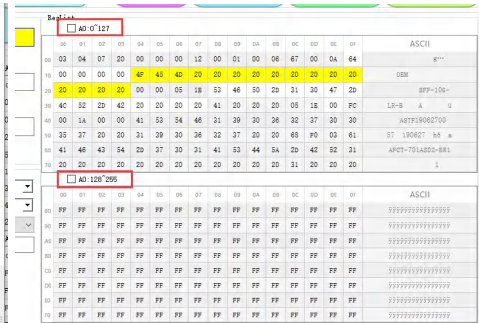

Figure 13
3.1.3 Uncheck the boxes for “A0:0~127” and “A0:128~255” (Figure 13)